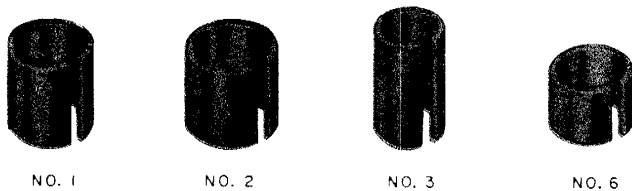

Fig. 13 — Binding Post Insulators
6.06 Binding post insulators are open-ended fiber insulators for use on binding posts to prevent accidental contacts. These insulators are designated No. 1, 2, 3, and 6, and are shown in Fig. 13. Binding post insulators have a red enamel finish.
- No. 1 insulators, Fig. 13, are for use on binding posts having 3/8-inch hexagonal nuts, and on 7T fuses.
- No. 2 insulators, Fig. 13, are for use on binding posts having 7/16-inch hexagonal nuts, and on 7A fuses.
- No. 3 insulators, Fig. 13, fit the screw binding posts of BD, BE, BF, and BG cable terminals.
- No. 6 insulators, Fig. 13, are for use on terminations of the alarm and contactor circuits in T pressure contactor-terminals and 3-pair gas-tight terminals.